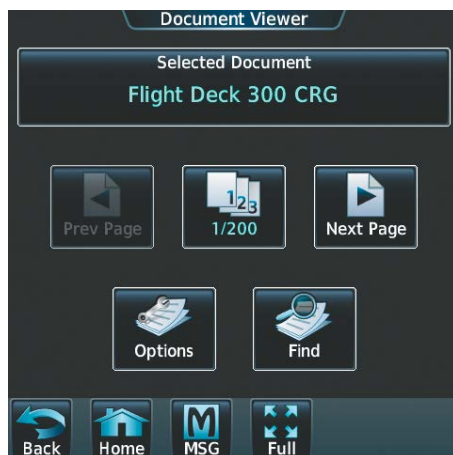
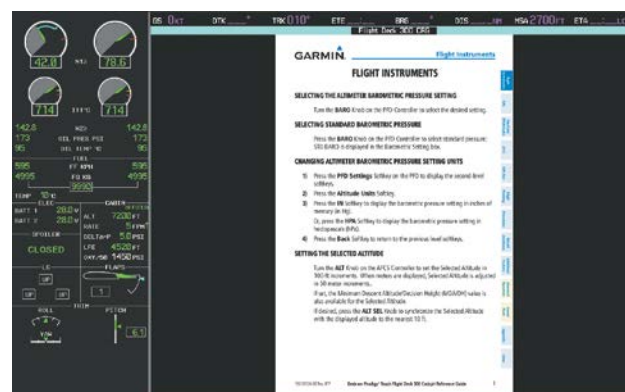

Figure 8-134 Selected Document Indicated
Figure 8-135 Document Viewed on MFD
- 4) Touch the desired document button. The selected document name is displayed in the **Selected Document** Button, as shown in Figure 8-134. The document is displayed in the selected pane, such as the MFD as shown in Figure 8-135.